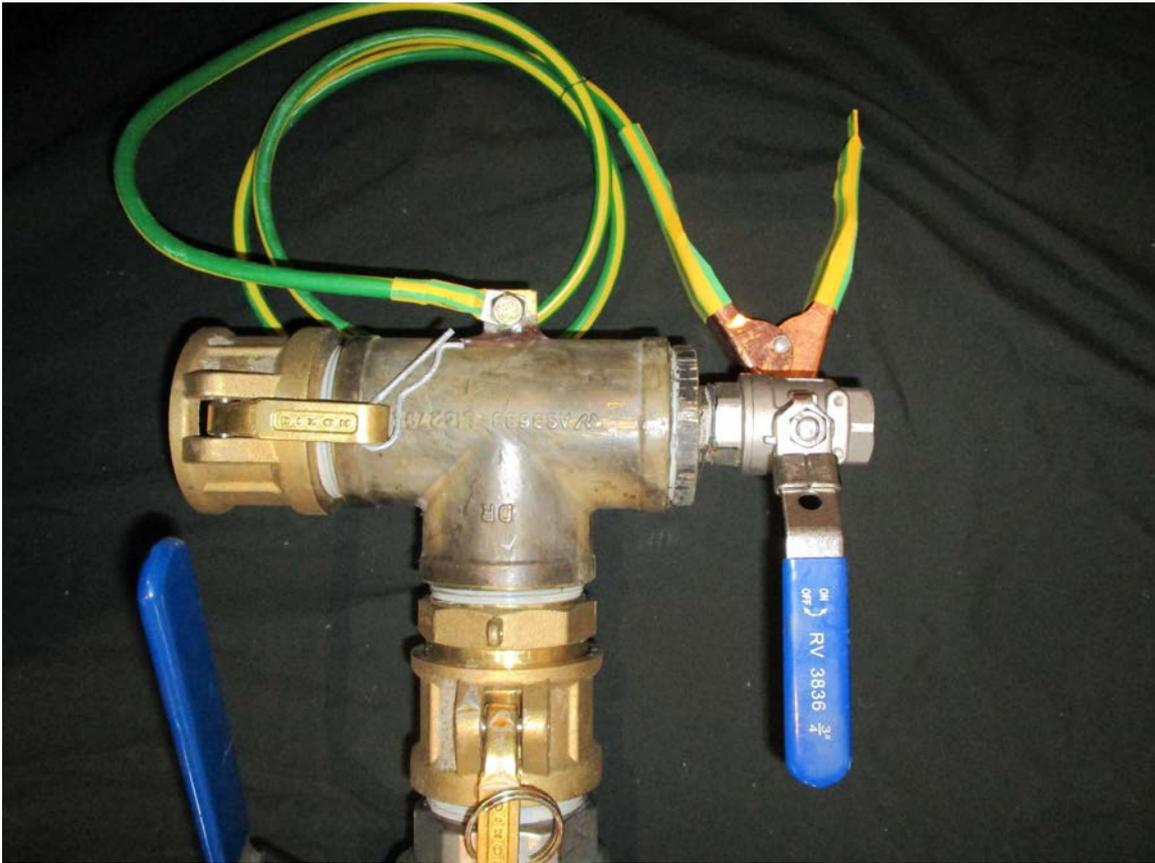

Figure 2
8. 16mm earth strap with clip (Fig 2).